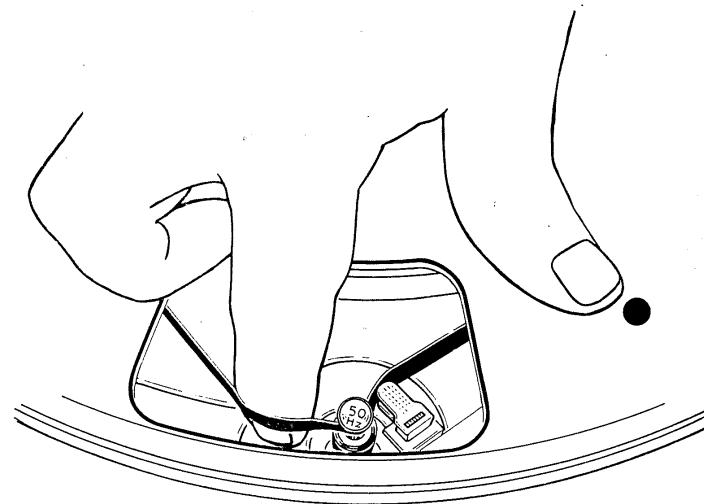

Figure 3. Looping the Belt
2. Put the Turntable on the Player Assembly Body. Loop the Belt around the Capstan and the Drive Rim, making sure that the Belt passes through the center of the belt guide. Make sure the Belt will be on the narrowest part of the Capstan when the Speed Selector Switch is on $33\frac{1}{3}$ r.p.m., and on the wide part when 45 r.p.m. In addition, check the cyclic rating of the Capstan, 50 Hz or 60 Hz. If the rating does not confirm with your local area by any chance, look up "Changing Capstan" in Adjusting Section of this manual. See Figure 3 for looping the Belt.